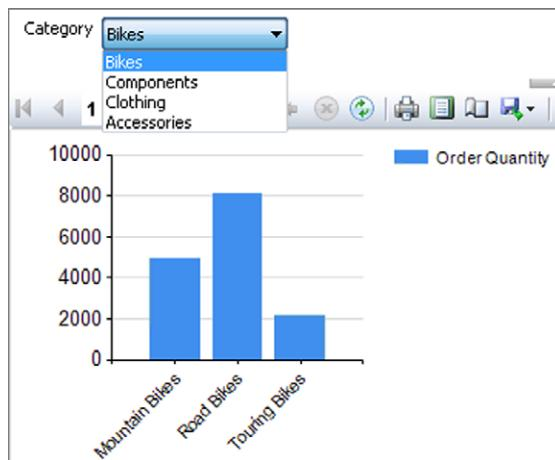

Figure 5-15
11. Now, preview the report and you see the parameter you created is now data-driven with a dropdown selection for the users to choose from. Figure 5-15 shows the user's interaction with the parameter.